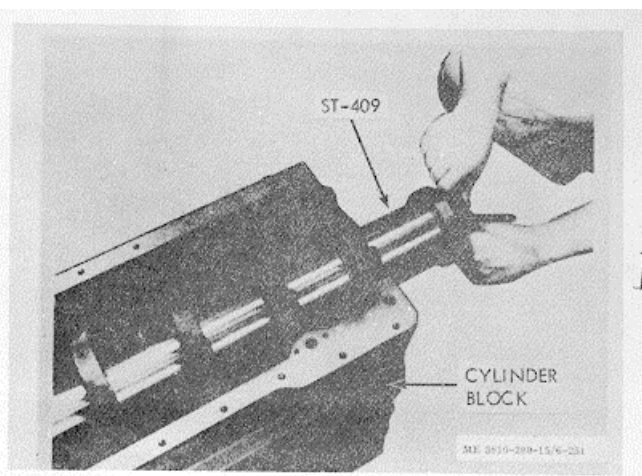

Figure 3-242. Checking main bearing bore alinement.
(10) Inspect bore alignment with special tool, ST 409. This closely ground bar will pass through all bores and turn freely unless caps are not tightened to proper tension, burs, etc., have not been removed, or caps are distorted, figure 3-242.
(h) Check bore with Checking Bar and measure bore diameter once again with dial bore gage. Refer to figures 3-242 and 3-244 and d. (10), (12) above.